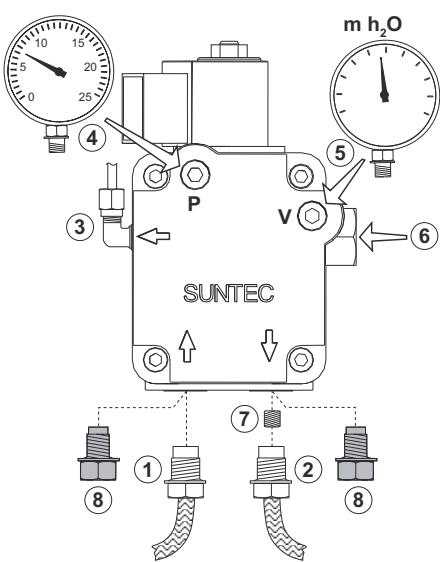
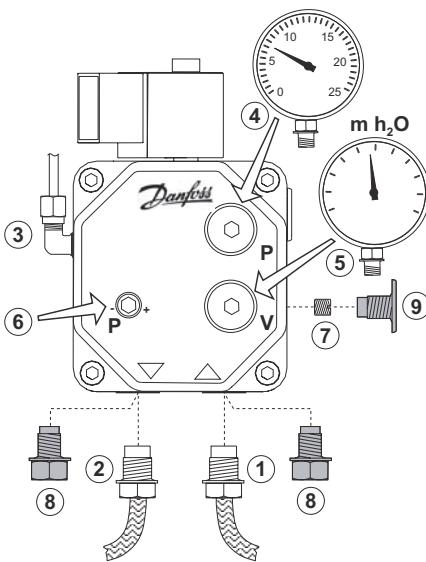

fig. 4a - Pump Suntec
fig. 4b - Pump Danfoss
The burner leaves the factory with the bypass inside the pump closed (ref. 7 - fig. 4a and 4b), i.e. the burner is arranged for two-pipe connection. Remove the caps (ref. 8) and connect the two hoses to the pump, in suction (ref. 1) and return (ref. 2) as shown in fig. 4a and fig. 4b, taking care not to twist the hoses, and position them so that they cannot be stepped on or come in contact with hot parts of the boiler.
**with SUNTEC pump** (see fig. 4a) - remove the bypass screw (ref. 7) and close the return union (item 2) on the pump with a suitable cap. Connect only the suction hose to the inlet union (ref. 1).
**with DANFOSS pump** (see fig. 4b) - unscrew the cap (ref. 9), remove the bypass screw (ref. 7) and close again with the cap (ref. 9). Connect only the suction hose to the inlet union (ref. 1). Unscrew the cap (8) from the return union (ref. 2) and close the union on the pump with a suitable cap.